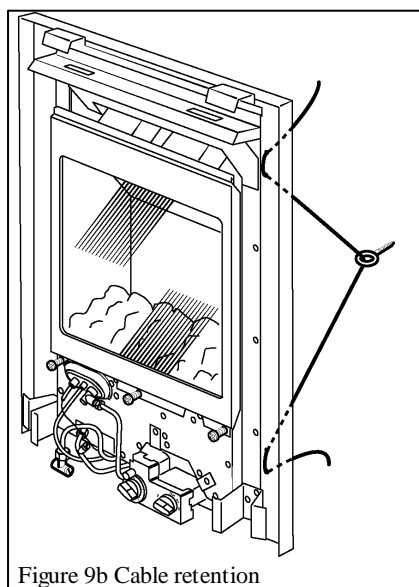

Figure 9b Cable retention
- Thread the two tension cables through the appliance case side holes as shown in figure 9b.
- Cable retention Fit the eyebolts onto the cables. Thread the cables through the appliance case sides as shown in figure 9b. Offer the fire complete with flue unit through the wall. Pull the cables taut.